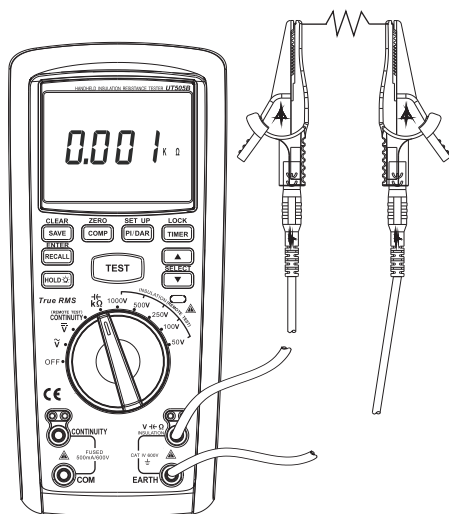

Figure 7
4.1 Measuring of Resistance (See Figure 7)
- ① Insert the red probe into “V” jack (red jack), and black one into “EARTH” jack (black jack).
- ② Rotate dial switch to “KΩ/” tap position and connect the probe to two ends of tested resistance in parallel.
- ③ Read current measuring value of resistance from the display.
- ④ In measuring, if intending to save measured resistance, press the key of “SAVE/CLEAR” for saving.